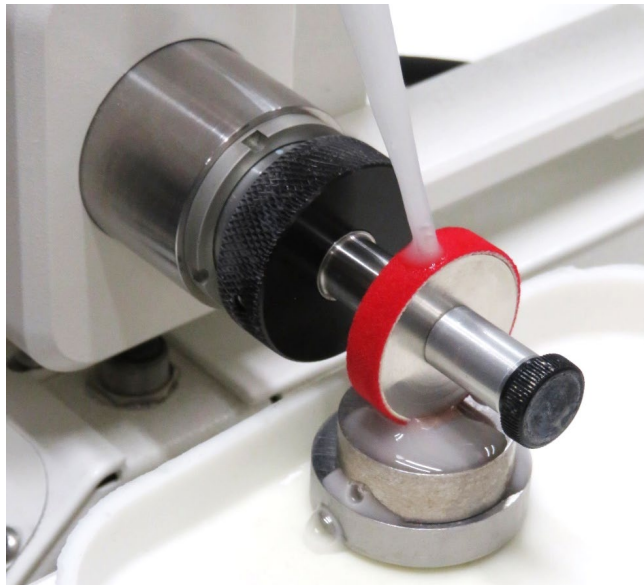

Figure 8: Adding Abrasive to the Padded Dimpler Tool
10. Wet the padding on the tool evenly with the first abrasive (*Figure 8*). Different processes will be better suited for different slurries, but a 1-3µm diamond or alumina is a good place to start for removing passivation, thick top metal, and/or thick ILD. 1µm diamond or smaller is recommended for thinner layers.